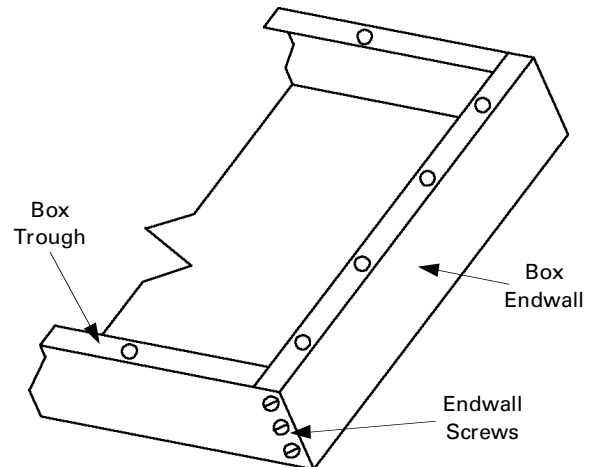

Figure 1. Box end where the extension is to be installed.
1. Remove all endwall screws from the end of the box where the box extension is to be mounted, as shown in Figure 1.